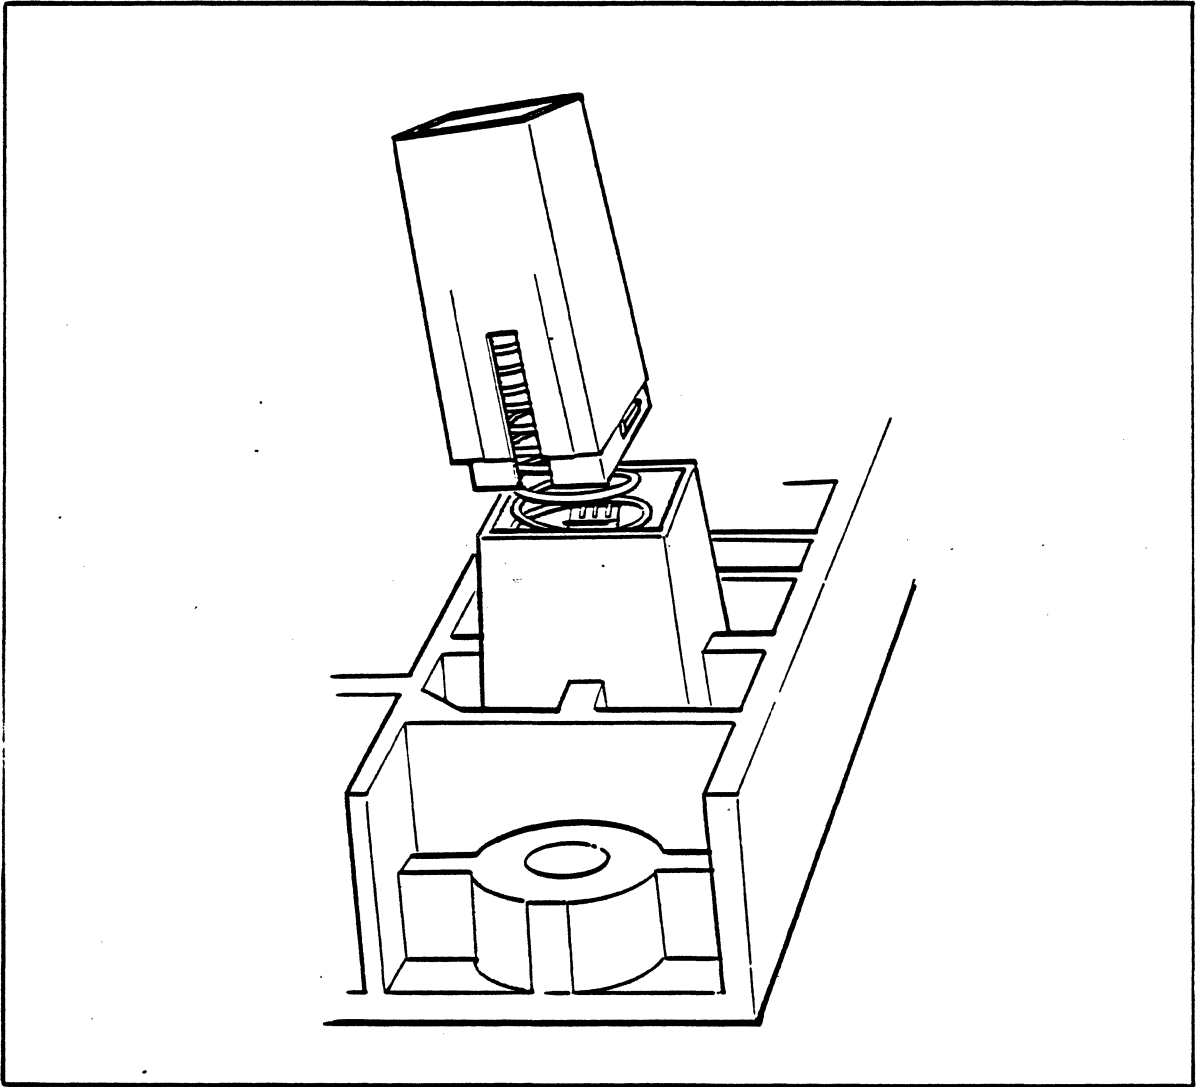

Figure 7-6. Replacing the Plunger
13. Replace the plunger making sure that the bar is parallel with the contact opening. Work the plunger down slowly, separating the contacts with the crossbar of the plunger (see Figure 7-6).